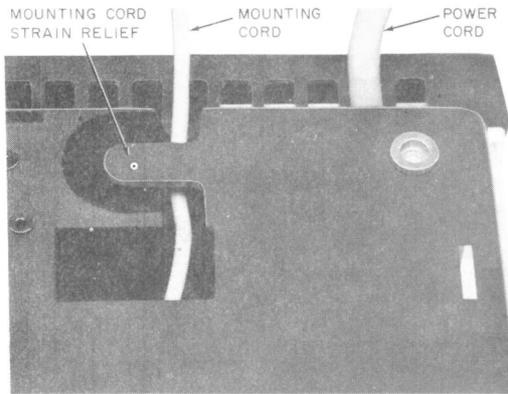

Fig. 5—Partial Bottom View of 5000A Terminal Set Showing Mounting Cord Strain Relief
(1) Pull excessive slack out of adjunct cord(s) as upper housing and chassis are replaced. Invert set and tighten captive screws holding the upper and lower housing together.
(2) Place jacketed portion of cord(s) under strain relief along with terminal set mounting cord which is shown in Fig. 5.